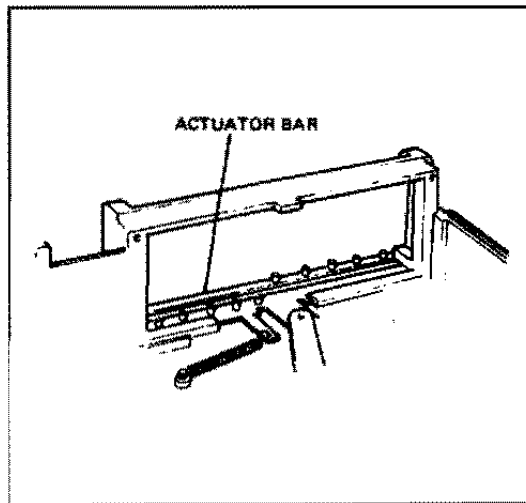

FIG. 4-23 REMOVING THE ACTUATOR BAR
- Note the manner in which the capacitor, battery, reflector assembly, insulator paper, and white foam pad are installed and then lift them out of the housing. Use care not to disconnect the electrical leads. Unhook the spring from the actuator bar and remove the bar (Figure 4-23).
- Position the new actuator bar in the housing and hook the spring in the bar (see Figure 4-23).